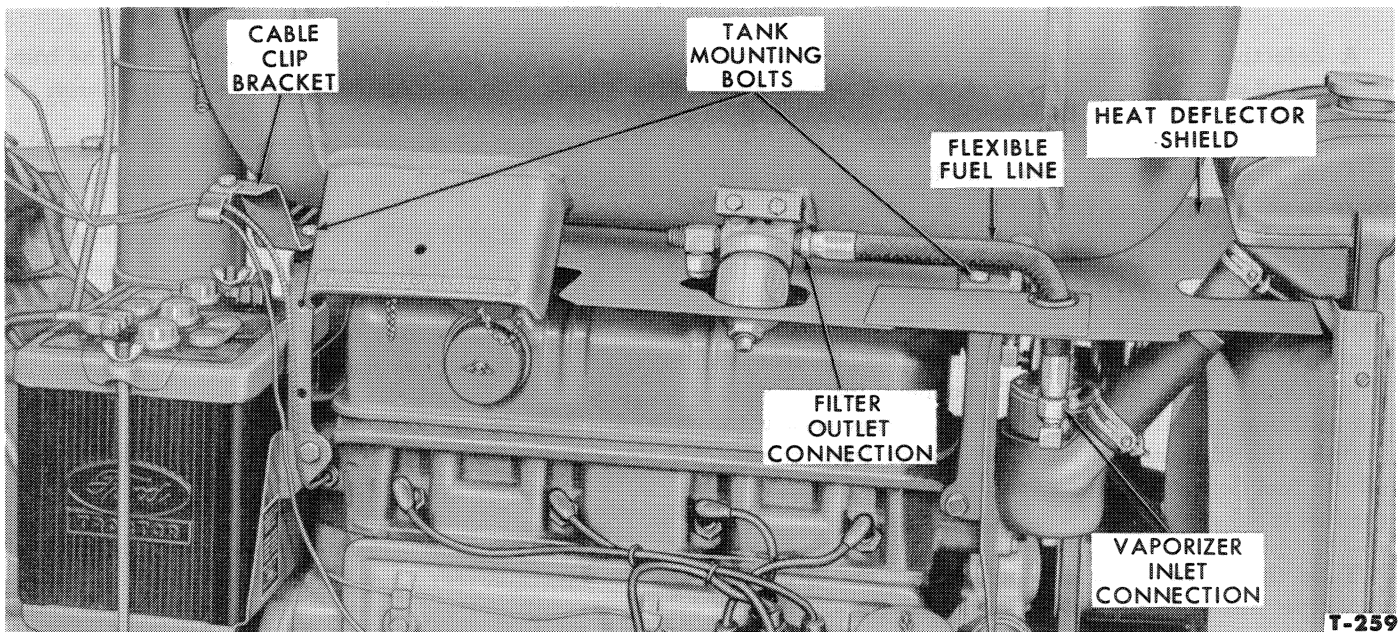

Figure 14—Fuel Tank Mounting
3. Remove the four tank mounting bolts, nuts, and lock washers which secure the tank to the tank mounting brackets, Figure 14.
7. With an assistant, position the fuel tank on the mounting brackets. Secure the tank to the brackets with four mounting bolts, nuts and lock washers, Figure 14. Secure the cable clip bracket to right rear tank mounting bracket. Secure the oil line and temperature gauge tube to the cable clip bracket.